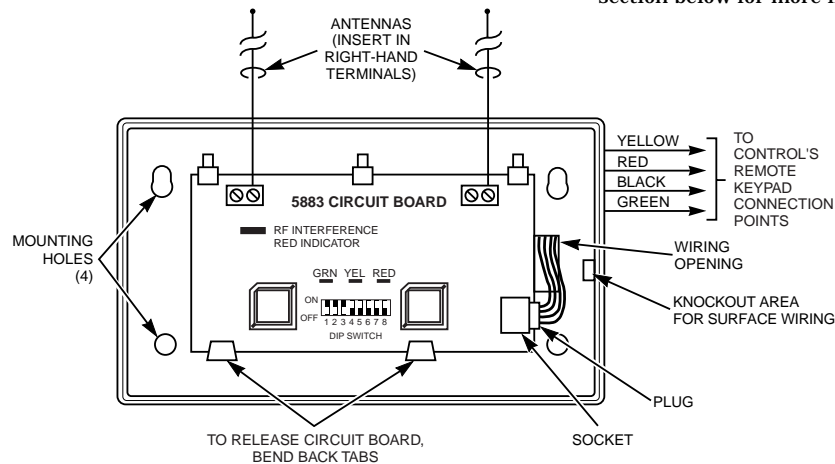

Figure 3. 5883 Transceiver
First, Check for RF Interference: Before mounting permanently, use the red RF Interference LED (see figure 3) to check for strong local radio frequency interference at the intended mounting location. If this LED is continuously lit, the 5883 module should be relocated.
1. Insert the wiring plug (with 4 flying leads) into the mating socket on the 5883 (see Figure 3 for socket location).
LED FUNCTIONS (refer to Figure 3)